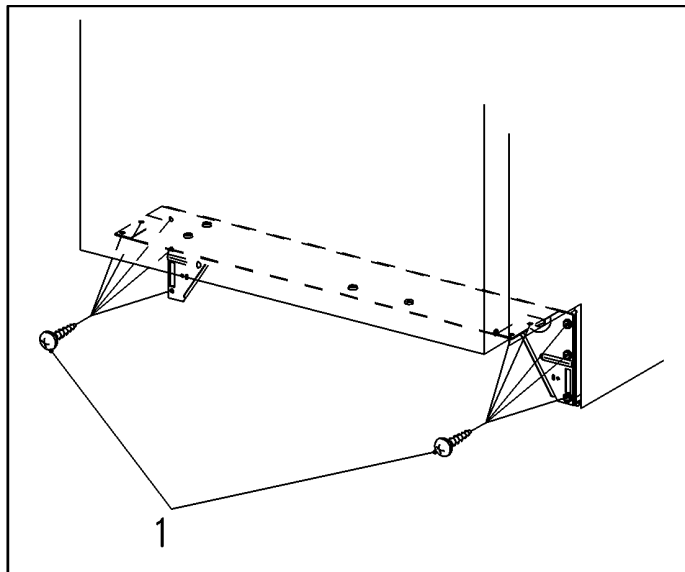

Figure 5-6: Plinth area with Connecting Strip
1. Remove the Raised Head and Countersunk Screws (Figure 5-6 – Item 1).